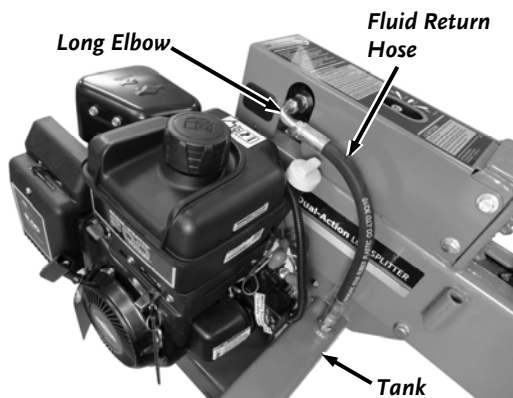

Figure 15
25. Install the Fluid Return Hose (long elbow end) at the Control Valve and the top of the Tank using a 7/8" Wrench (**Figure 15**).